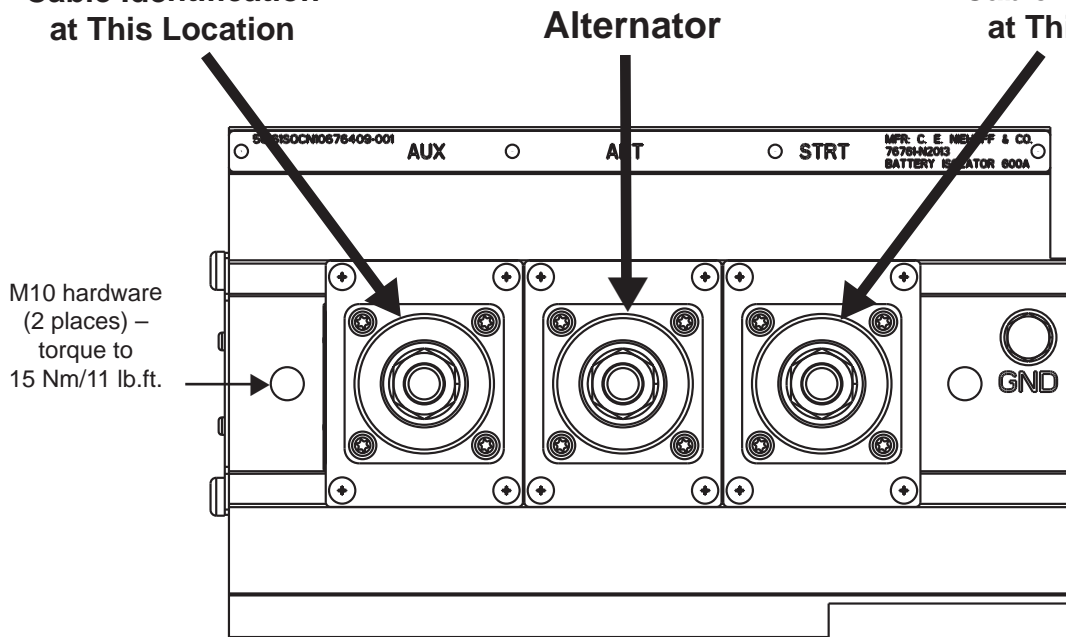

Figure 1 - Cable Locations
2. Connect number of cables and cable placement as specified by vehicle manufacturer. See Figure 1 for reference. Use proper stacking order as specified by vehicle manufacturer. Tighten to specifications shown in Figure 2 on page 2.